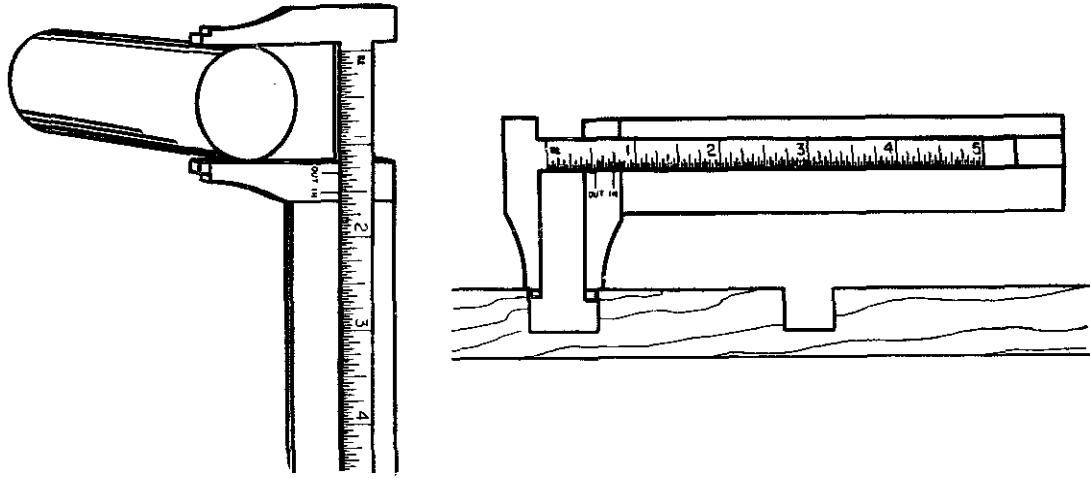

Fig. 2-22 Caliper rule applications
5. Show by arrows where the measurement is read on the two illustrations of caliper uses, figure 2-22.